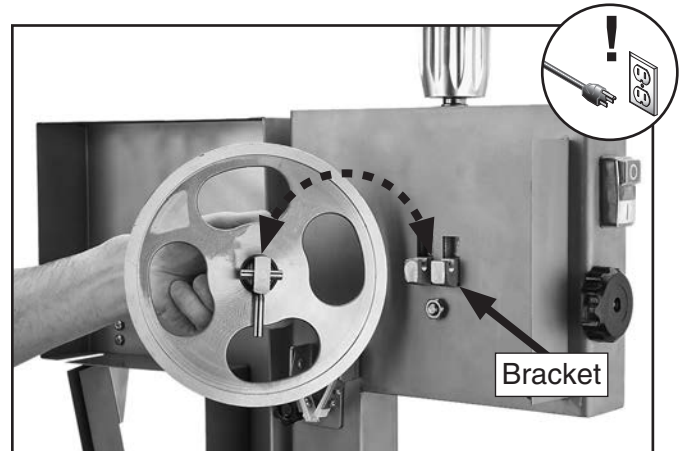

Figure 10. Upper wheel removed from bracket.
4. Lift the upper wheel up to remove it from bracket (see **Figure 10**).